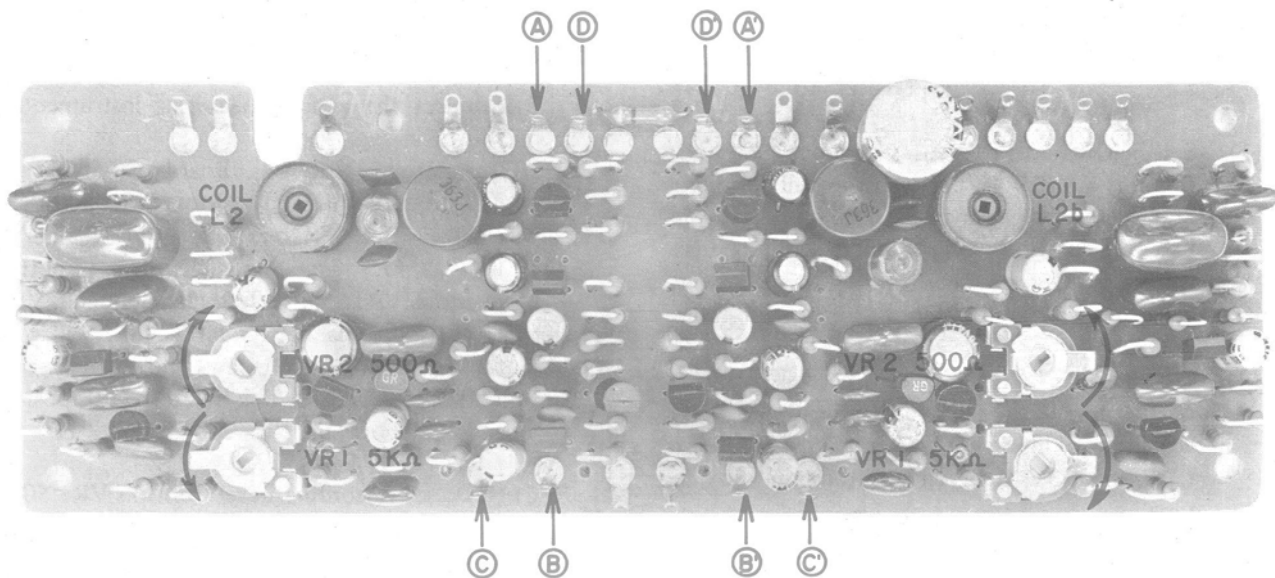

Fig. 25 Dolby N.R. P.C. Board CP-5003 (Face Side)
ADJUSTMENT (Refer to Figs. 25 and 26)
- b) Turn Dolby N.R. P.C. Board (CP-5003) gain adjustment semi-fixed resistors VR2 500B (left channel) and VR2b 500B (right channel) as well as FET gate bias adjustment semi-fixed resistors VR1 5 kB (left channel) and VR1b 5 kB (right channel) as far as they will go in the direction of the arrows shown in Fig. 25.
- g) At this condition, further adjust the Attenuator so that the line output level at point ① in Fig. 25 is -28.5 dB. (This adjustment must be exactly -28.5 dB) and confirm that the level at point ② is -28.5 ± 0.5 dB.
- h) Next, turn Dolby N.R. Switch SW20 to ON position. Adjust Dolby N.R. P.C. Board gain adjustment semi-fixed resistors VR2 500B (left channel) and VR2b 500B (right channel) until the voltage at point ③ in Fig. 25 is increased by 10 dB.
- i) Disconnect GND (ground) from FET gate. Adjust FET gate bias volumes VR1 5 kB (left channel) and VR1b 5 kB (right channel) until the voltage at point ④ is reduced by 2 dB.